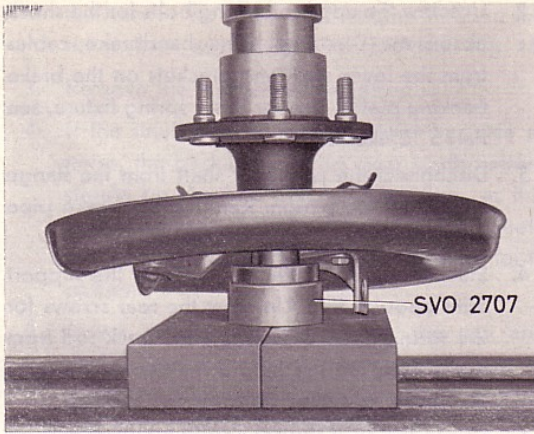

Fig. 22. Fitting drive shaft bearing
11. Fit the brake backing plate and retainer on the drive shaft. Place the lock ring and bearing in the cushioning ring SVO 2707. Insert the drive shaft and fit the assembly in a press. Press on the drive shaft until the bearing and lock ring are in position, see Fig. 22.